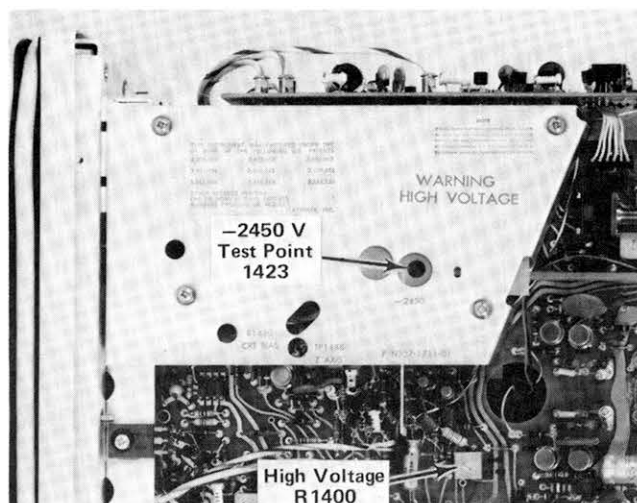

Fig. 5-3. High-voltage test point and adjustment locations.
a. Connect the DC Voltmeter between -2450 volt test point and ground (positive meter lead to ground). -2450 test point is accessible through the hole in the high voltage cover. (See Fig. 5-3.)
c. ADJUST—High Voltage adjustment R1400 (see Fig. 5-3) for a meter reading of -2450 volts (± 24.5 volts).